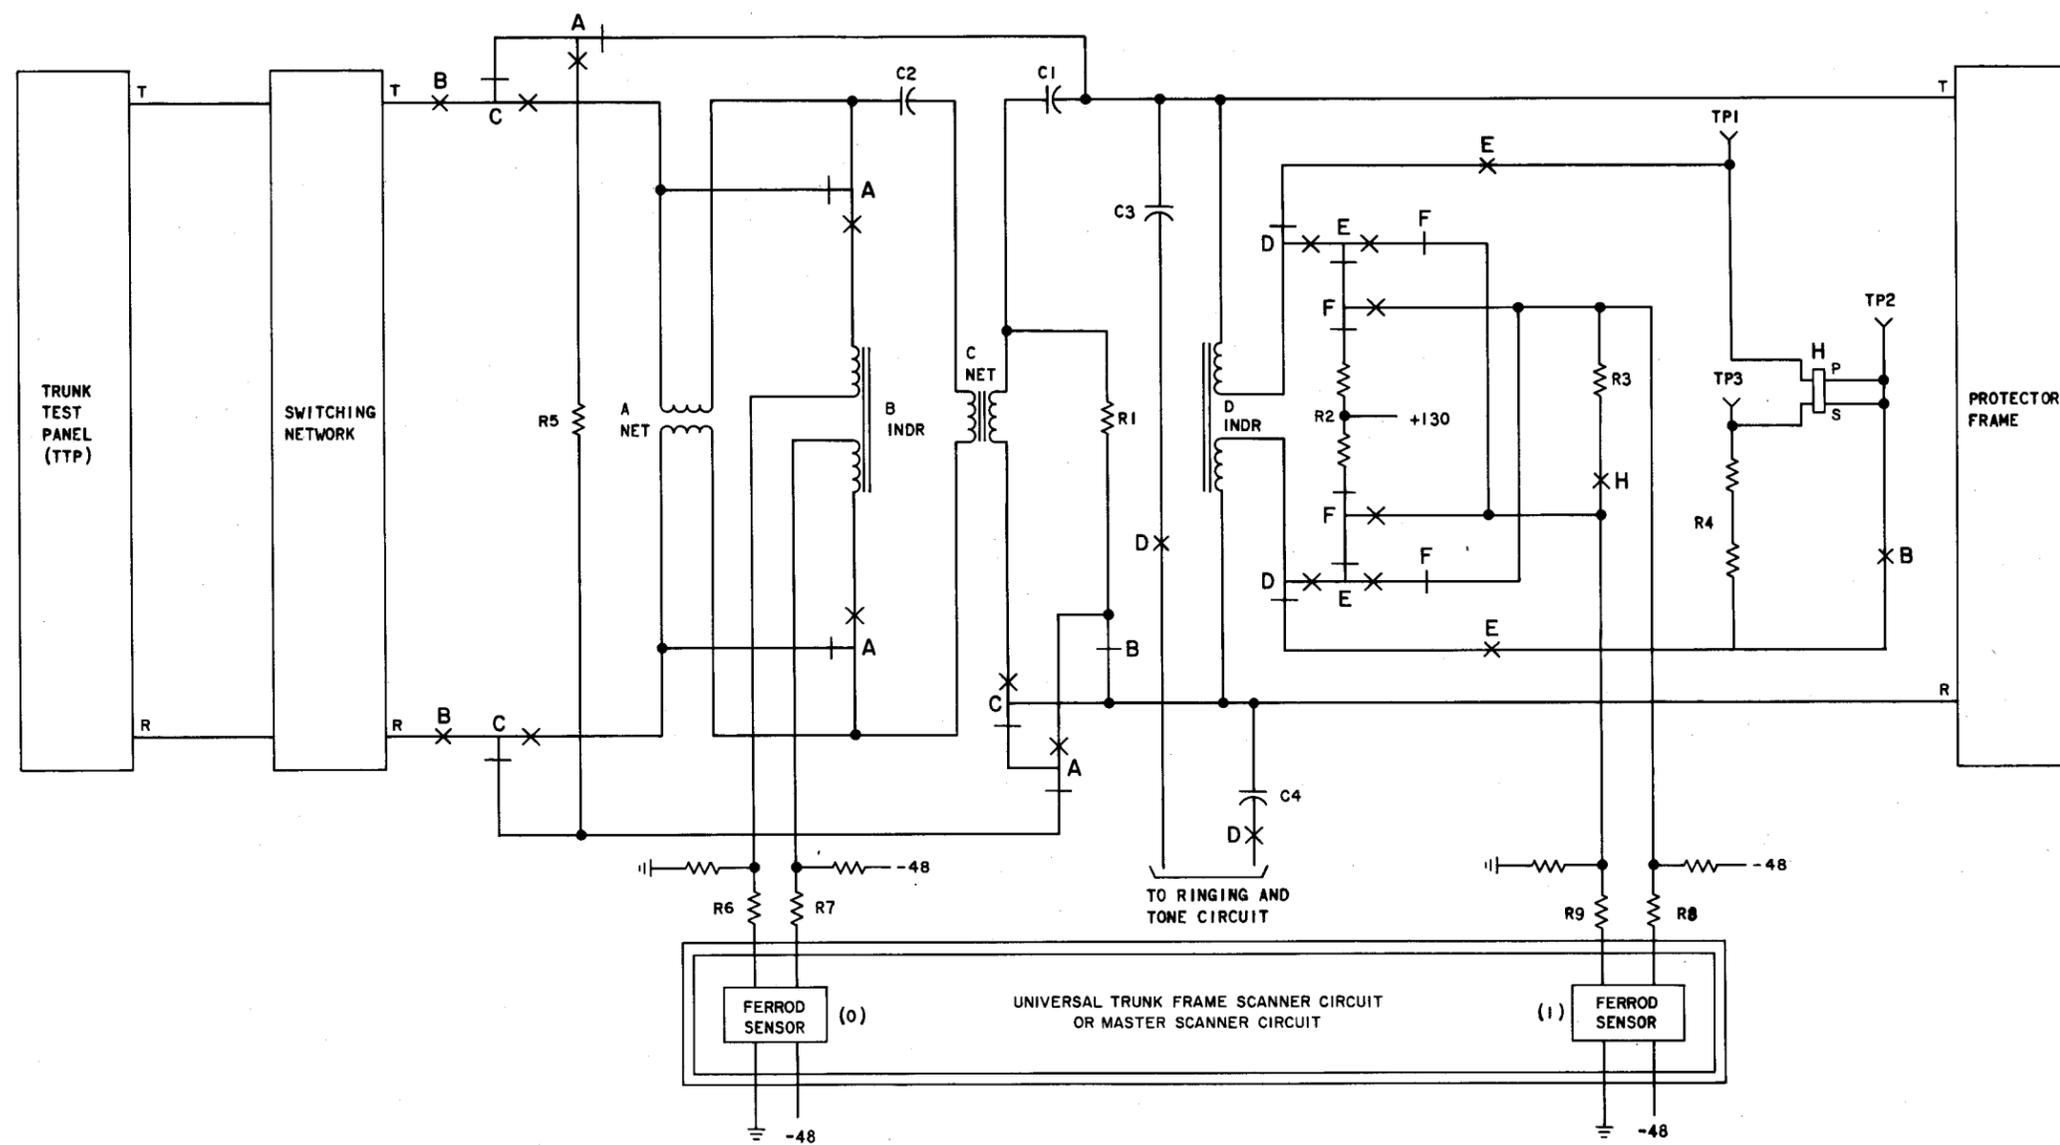

Fig. 1—Outgoing Trunk Circuit (SD-2H107)
3.03 The following is a step-by-step procedure to make the outgoing trunk circuit traffic busy and connect it to the TTP (Fig. 1).